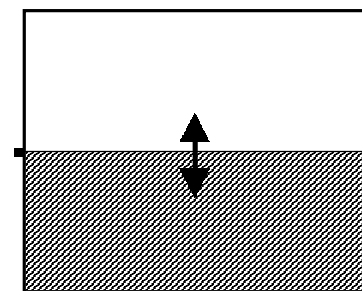

Fig. 1
3. Select the V-CENTER, to display the picture only on the upper half of the screen. (Fig. 1)